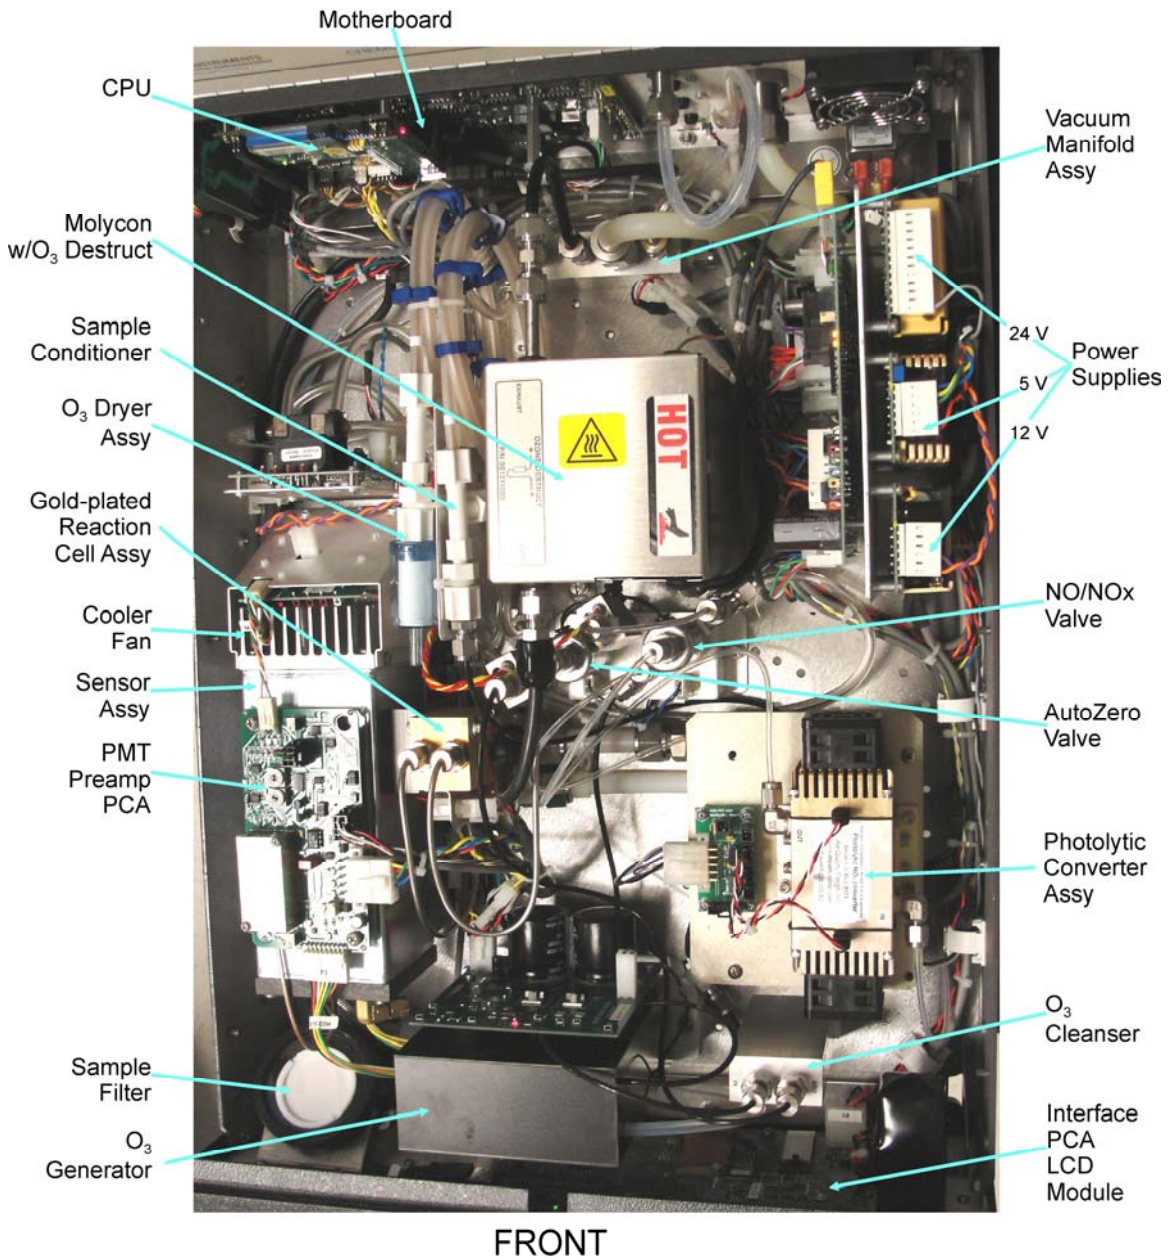

Figure 3-1. T200UP Internal Chassis Layout
The front and rear panel illustrations and indicator/control/display descriptions in the T200 manual are the same for the T200UP. The internal chassis layout is shown in Figure 3-1; compared to the T200 layout, the differences include the photolytic converter, a sample conditioner, and an additional power supply (24V).
6. Locate the Photolytic Converter assembly (Figure 3-1) and remove both lamp assemblies as follows: